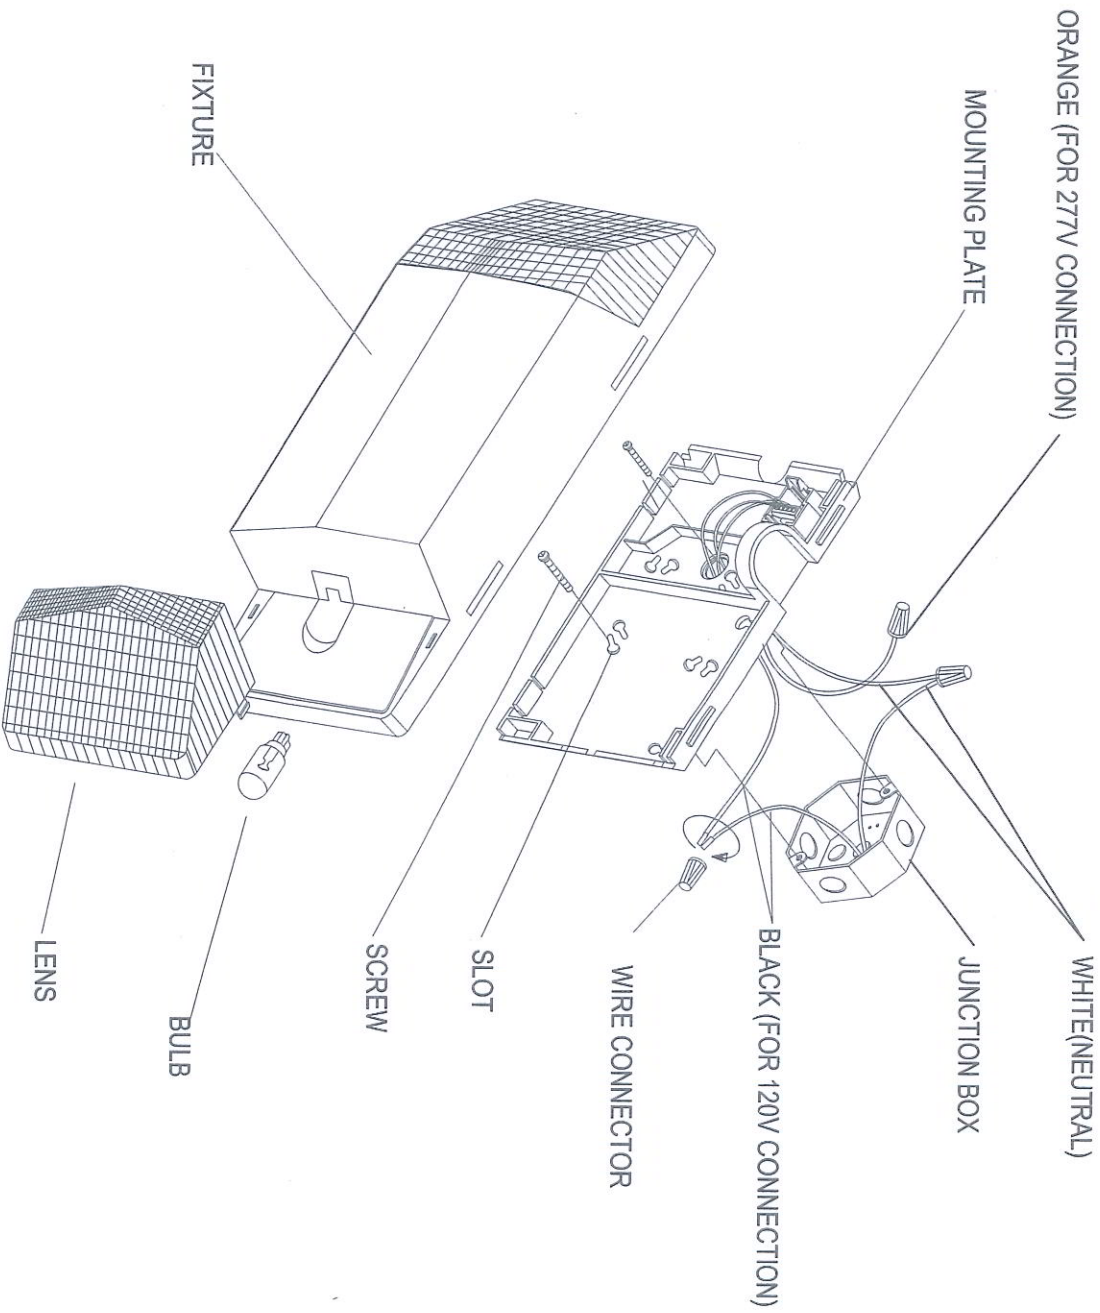

Figure 1
1. Remove mounting plate from fixture by prying with screwdriver (See Fig. 1).